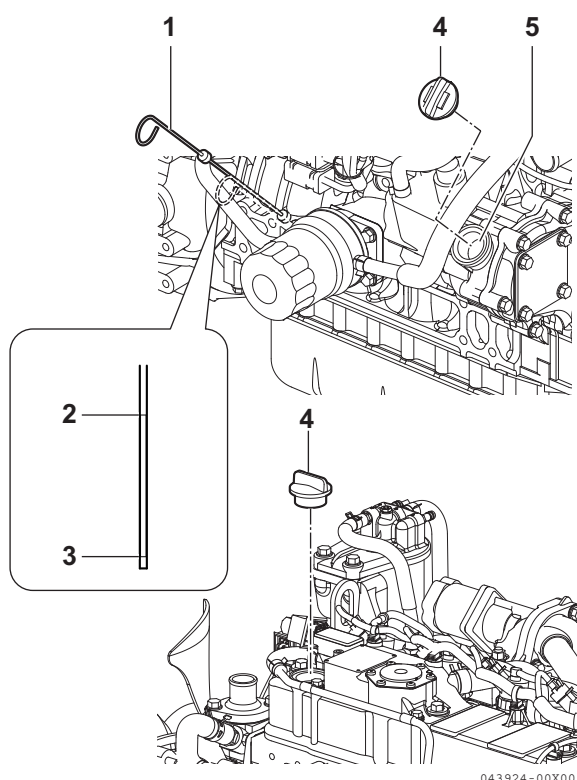

Figure 4-21
2. Remove dipstick (**Figure 4-21, (1)**) and wipe with clean cloth.
4. Remove dipstick. The oil level should be between upper (**Figure 4-21, (2)**) and lower (**Figure 4-21, (3)**) lines on the dipstick.
2. Remove oil cap (**Figure 4-21, (4)**).
3. Add indicated amount of engine oil at the top or side engine oil filler port (**Figure 4-21, (5)**).
6. Reinstall oil cap (**Figure 4-21, (4)**) and hand-tighten. Over-tightening may damage the cap.